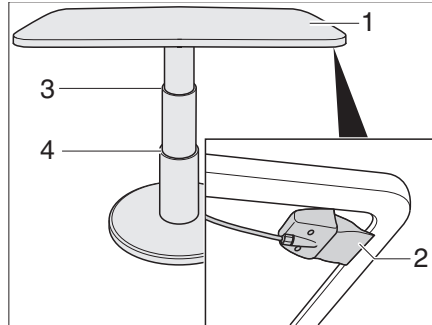

Fig. 59 Lift-off table for the round seating group
- Pull the catch lever (Bild 59,2) upwards and hold.
- Press the table-top (Bild 59,1) in the middle downwards to the desired stop limit (Bild 59,3 or 4).